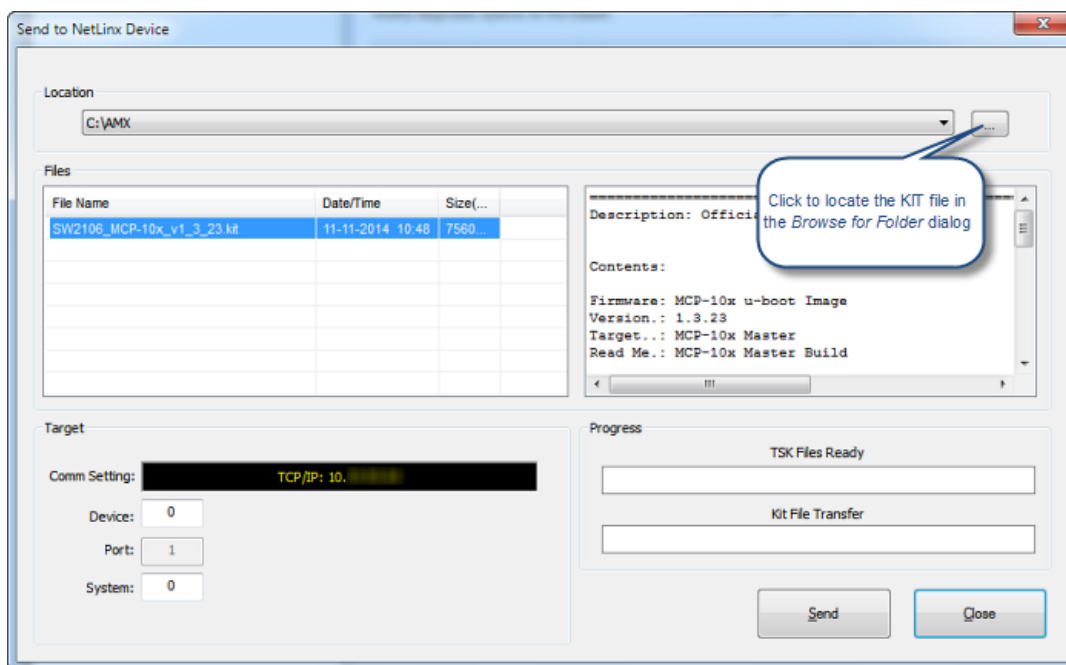

FIG. 36 NetLinx Studio - Send to NetLinx Device dialog
5. Click the *Browse* button (...) to locate and select the firmware (*.kit) file that will be transferred, in the *Browse for Folders* dialog (FIG. 36):